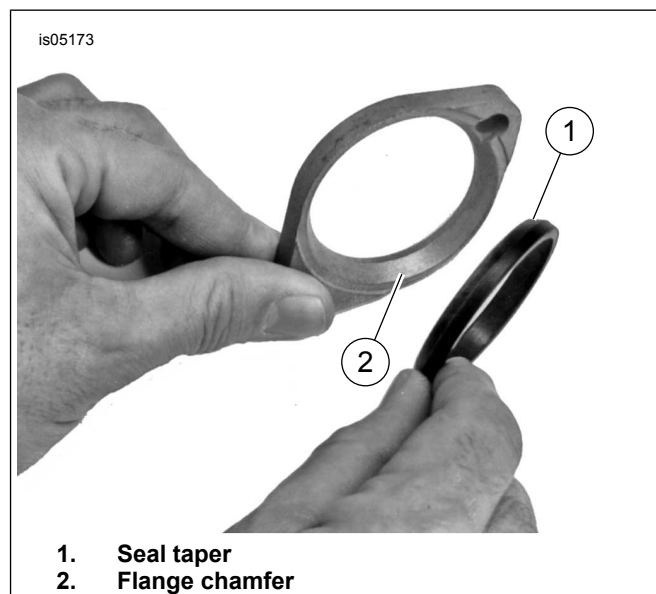

Figure 1. Assemble Tapered Seal to Flange Chamfer
4. See Figure 1. The flanges (2) have a chamfer and the seals (1) are tapered to fit into the chamfer. Place the flanges on the manifold so the chamfer faces outward. Install intake seals.